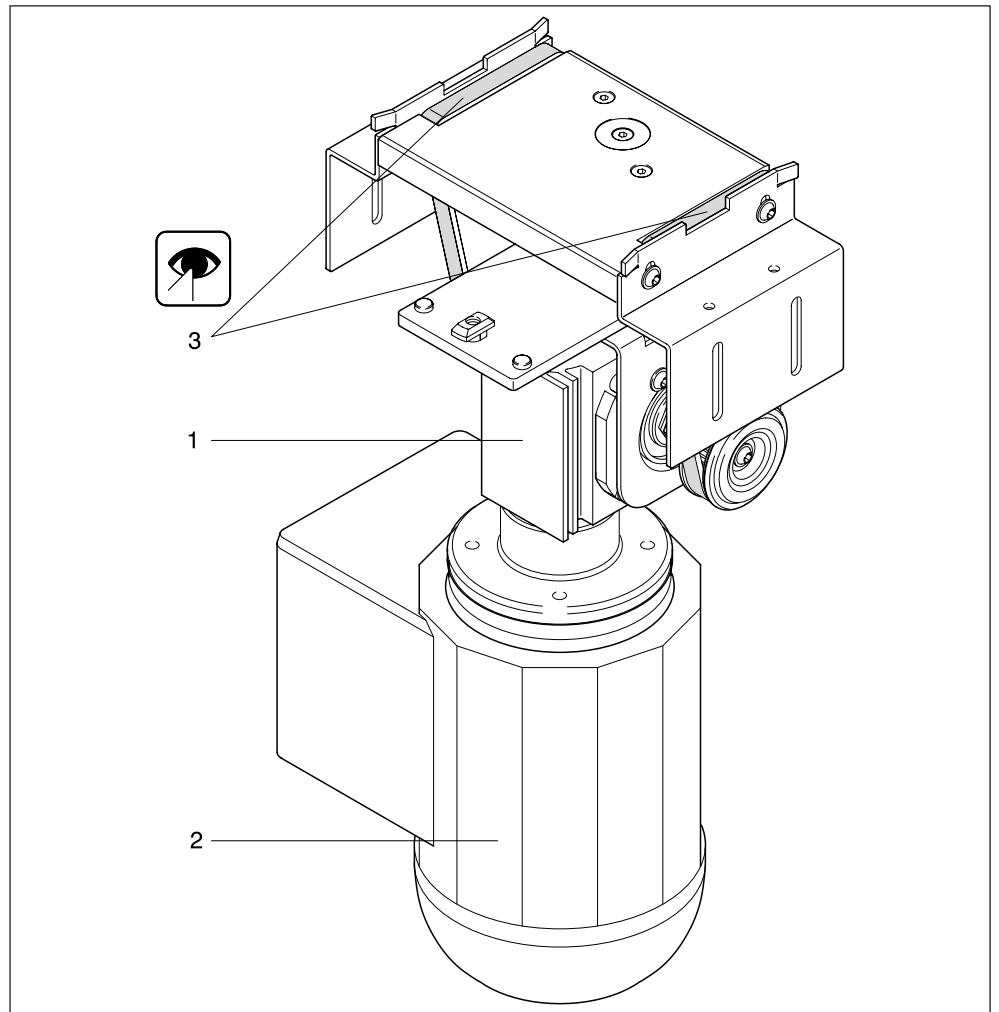

Fig. 19
10.3.2 Gear (1, Fig. 19)
10.3.3 Motor (2, Fig. 19)
10.3.4 Toothed belt (3, Fig. 19)